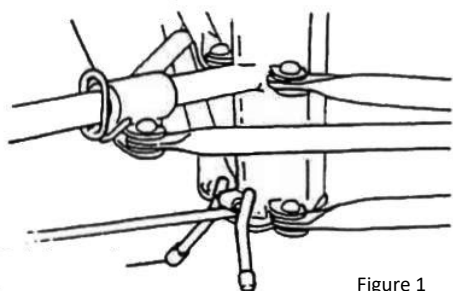

Figure 1
- Press down on the slide yoke ring. Hold the ring down while you swing the two forward legs out until the yoke ring snaps into the locking hole on the bottom of the slide tube. (See Figure 1)